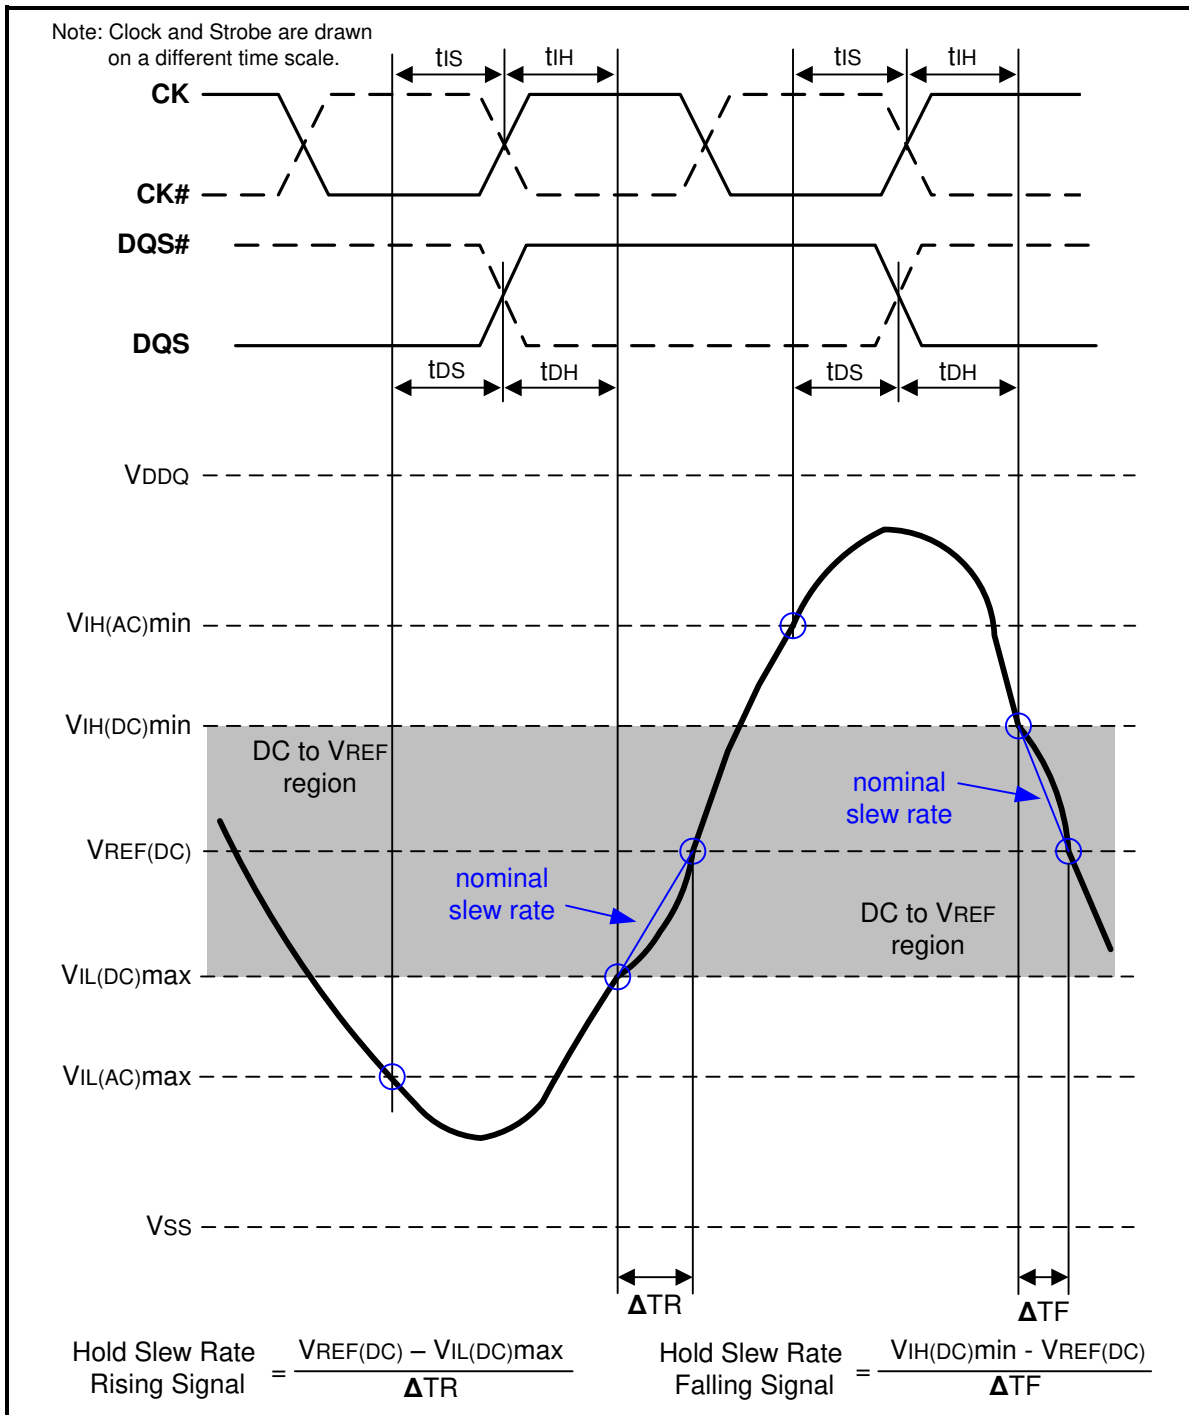
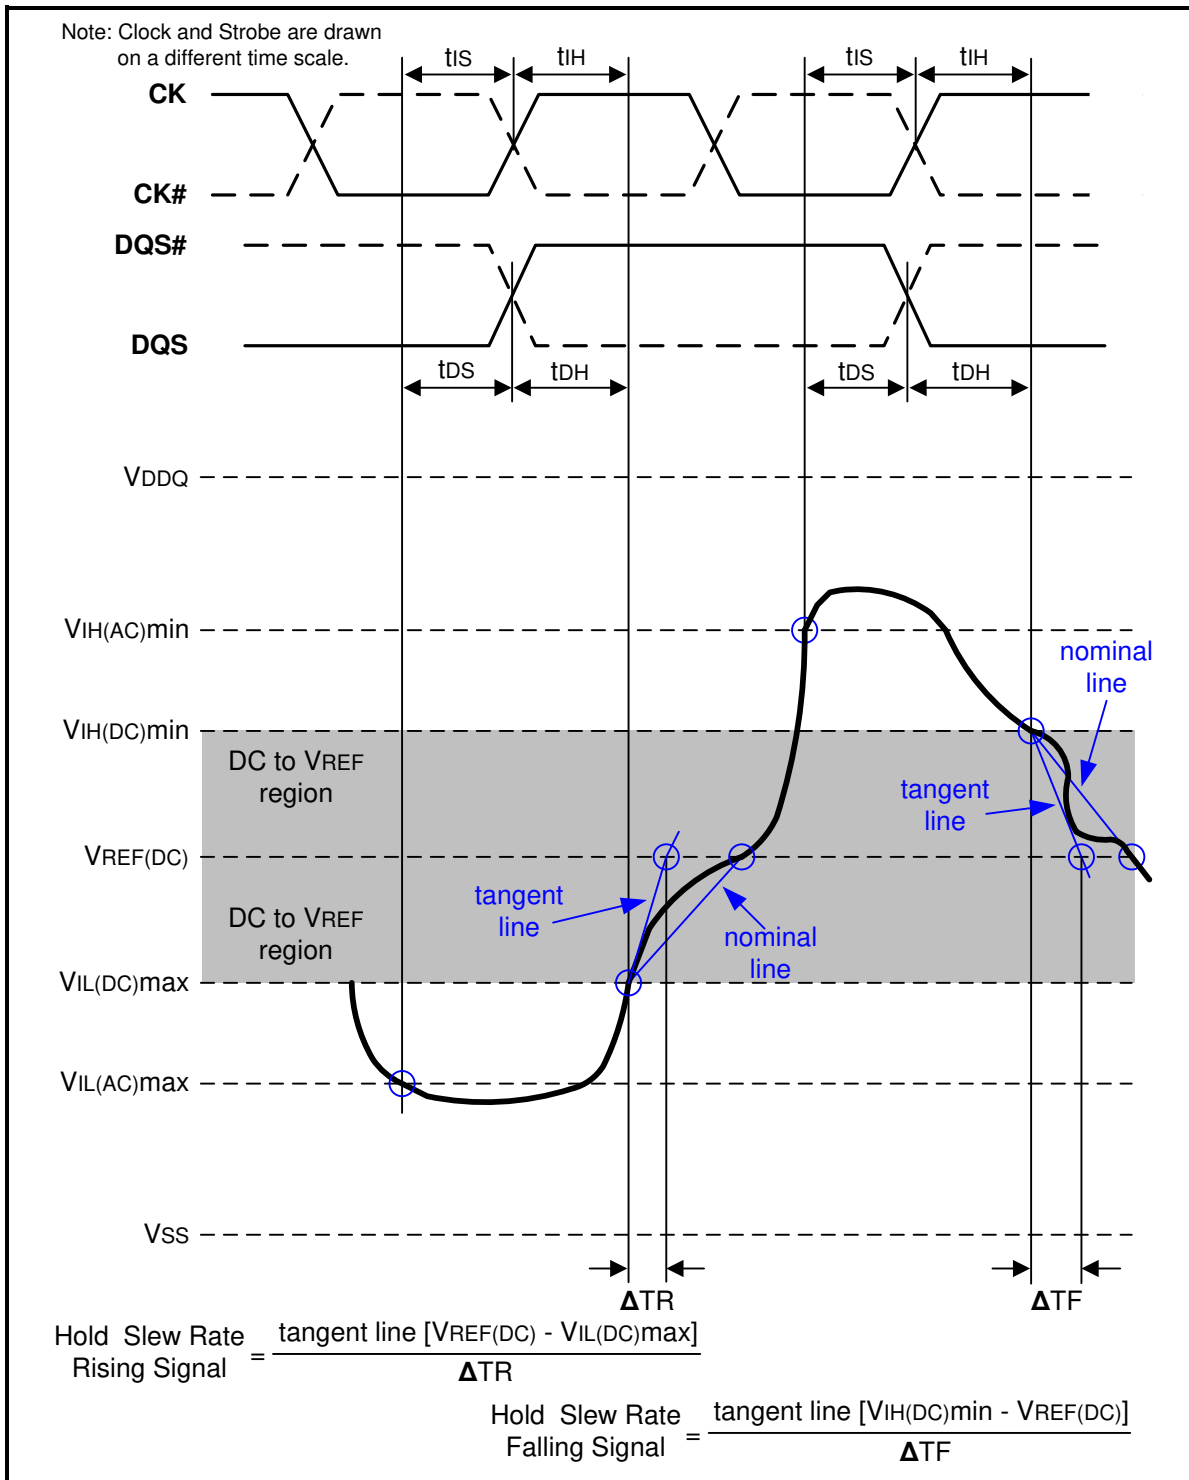

Figure 108 – Illustration of nominal slew rate for hold time tDH (for DQ with respect to strobe) and tIH (for ADD/CMD with respect to clock)
Figure 110 – Illustration of tangent line for for hold time tDH (for DQ with respect to strobe) and tIH (for ADD/CMD with respect to clock)
Hold (t_{IH}) nominal slew rate for a rising signal is defined as the slew rate between the last crossing of $V_{IL}(\text{DC})_{\text{max}}$ and the first crossing of $V_{REF}(\text{DC})$. Hold (t_{IH}) nominal slew rate for a falling signal is defined as the slew rate between the last crossing of $V_{IH}(\text{DC})_{\text{min}}$ and the first crossing of $V_{REF}(\text{DC})$. If the actual signal is always later than the nominal slew rate line between shaded 'DC to VREF(DC) region', use nominal slew rate for derating value (see Figure 108). If the actual signal is earlier than the nominal slew rate line anywhere between shaded 'DC to VREF(DC) region', the slew rate of a tangent line to the actual signal from the DC level to $V_{REF}(\text{DC})$ level is used for derating value (see Figure 110).
Hold (tDH) nominal slew rate for a rising signal is defined as the slew rate between the last crossing of VIL(DC)max and the first crossing of VREF(DC). Hold (tDH) nominal slew rate for a falling signal is defined as the slew rate between the last crossing of VIH(DC)min and the first crossing of VREF(DC) (see Figure 108). If the actual signal is always later than the nominal slew rate line between shaded 'DC level to VREF(DC) region', use nominal slew rate for derating value. If the actual signal is earlier than the nominal slew rate line anywhere between shaded 'DC to VREF(DC) region', the slew rate of a tangent line to the actual signal from the DC level to VREF(DC) level is used for derating value (see Figure 110).